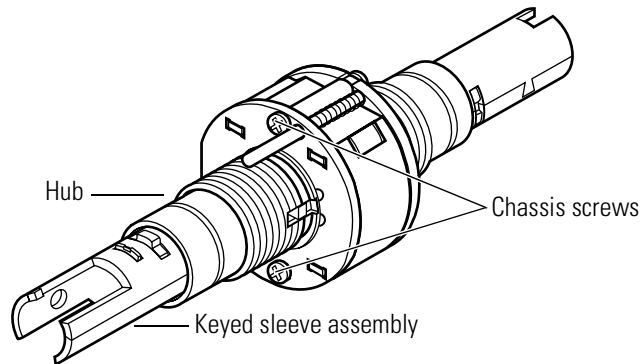

Figure 3.18 Separating the chassis
2. Remove the two chassis screws shown in Figure 3.18, and separate the hub and sleeve assembly from the rest of the chassis. Save the two screws.